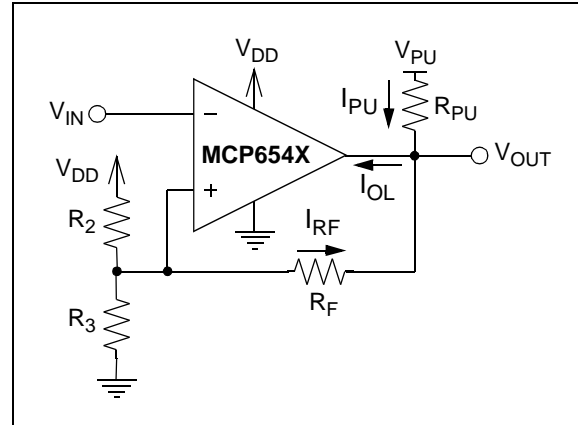
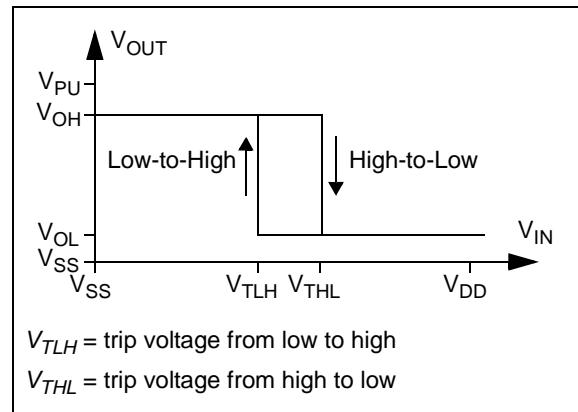
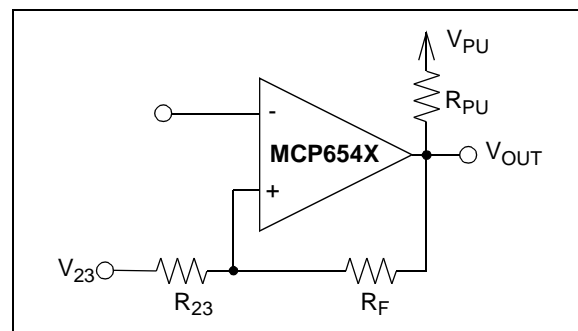

FIGURE 4-4: Inverting Circuit with Hysteresis.
FIGURE 4-5: Hysteresis Diagram for the Inverting Circuit.
FIGURE 4-6: Thevenin Equivalent Circuit.
Figure 4-4 shows an inverting circuit for a single-supply application using three resistors, besides the pull-up resistor. The resulting hysteresis diagram is shown in Figure 4-5.
In order to determine the trip voltages (V_{THL} and V_{TLH}) for the circuit shown in Figure 4-4, R_2 and R_3 can be simplified to the Thevenin equivalent circuit with respect to V_{DD} , as shown in Figure 4-6.
Figures 2-21 and 2-24 can be used to determine typical values for V_{OL} . This voltage is dependent on the output current I_{OL} as shown in Figure 4-4. This current can be determined using the equation below:
1. For the Inverting Configuration (Figures 4-4 and 4-7):